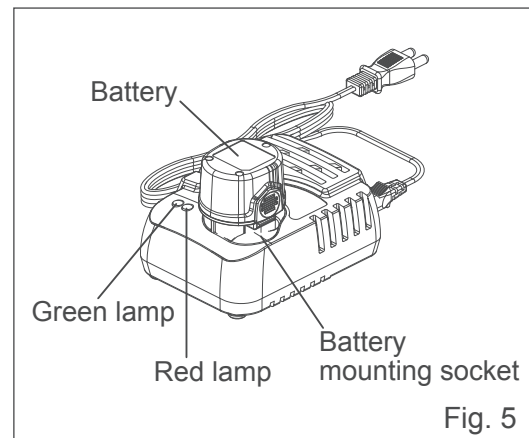

Fig. 5
3. Insert the battery as far as it will go into the mounting on the charger. (Fig. 5)
The battery is fully charged when the lamp stops flashing but remains on. A full charge takes about 60 minutes in total. (Fig. 5)